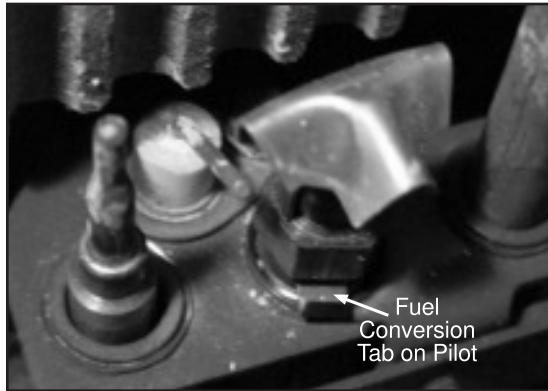

Figure 19: Fuel Conversion Tab on Pilot.
- b) Push the slider, with your finger or flat head screwdriver, to the left if it is to be set for natural gas or to the right for propane, red on the slider will be visible (see Figure 19).